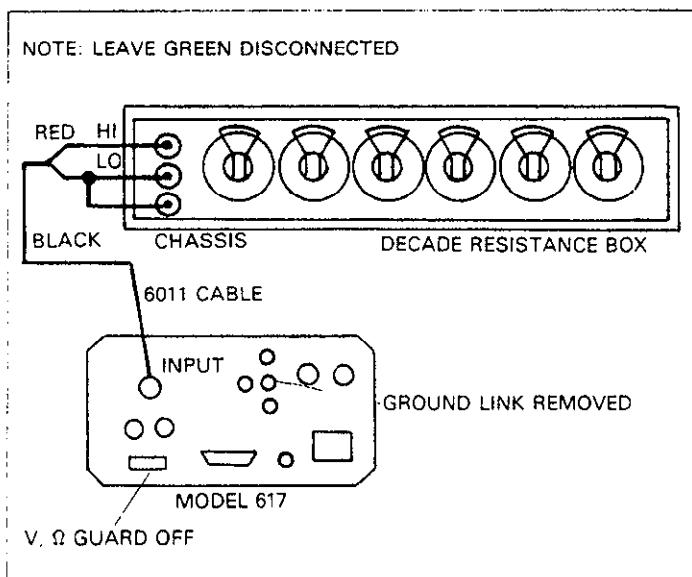

Figure 7-9. Connections for Ohms Calibration (20kΩ and 20MΩ Ranges)
- Enable zero check and place the V- Ω GUARD switch in the OFF position. Disconnect the $100\text{M}\Omega$ resistor and shielded enclosure from the instrument. Substitute the decade resistance box in its place, as shown in Figure 7-9.
6. Adjust the voltage source gain adjustment (see Figure 7-9) so that the DMM reads a voltage of (100V ± offset ± 10mV), using the offset value obtained in step 4.